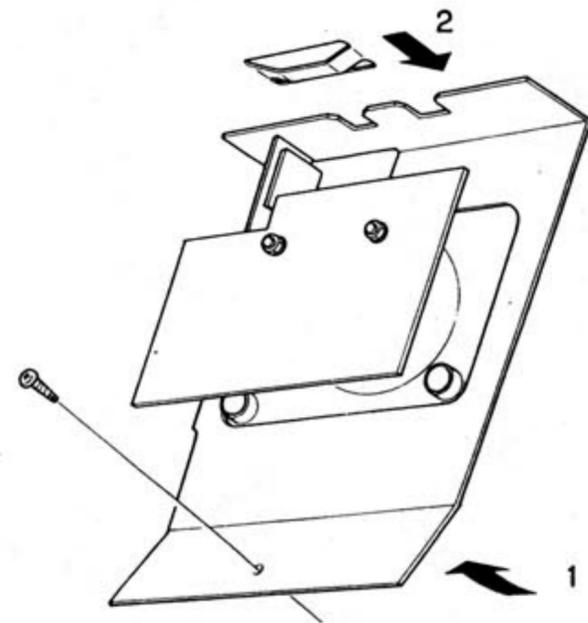

Fig. 8
- 3) When the screw shown in Fig. 8 is removed, the C. Board may be taken out together with the meter.